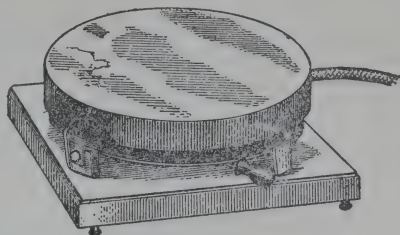

Fig. 73
2. *Electric Hot Plate* (Fig. 73).—This when opened was found to have wire coiled up inside in the same manner as the sad iron. Indeed the sad iron supported bottom side up makes a perfectly good hot plate. The particular hot plate which we ex-